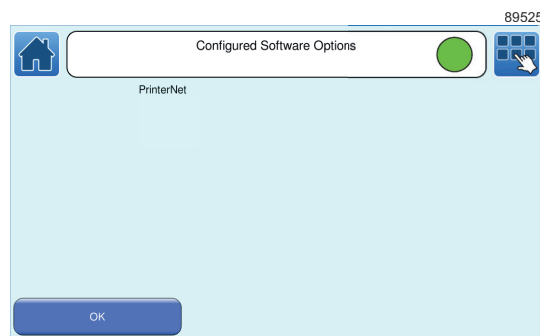

Figure 12. Configured Software Options (options shown may differ)
- 3 Touch **Configurations** to display the software options enabled with the current configuration code (see Figure 12).